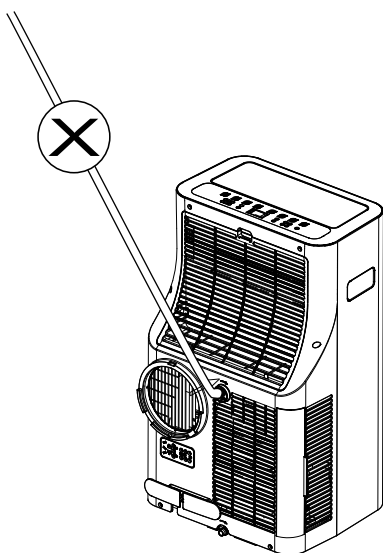

FIG. 25
**NOTE:** Make sure the hose is secure so there are no leaks. Direct the hose toward a floor drain, making sure that there are no kinks that will stop the water flow. Place the end of the hose into a drain and make sure the end of the hose is directed downward to let the water flow smoothly. (See Fig. 23.) Never allow the hose to be directed upward at any point. (Fig. 25.)